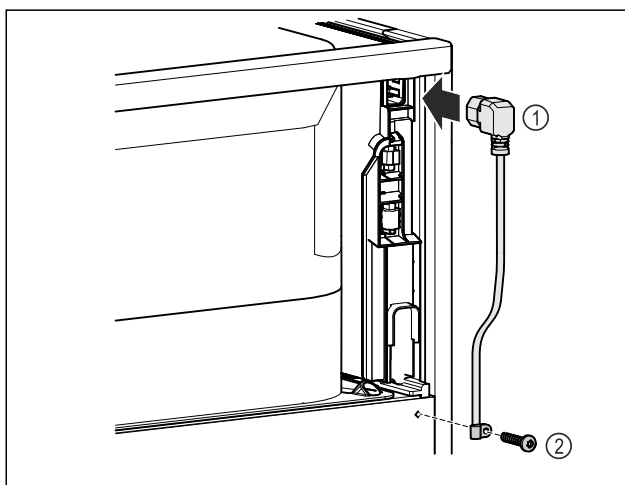

Fig. 9
- ▶ IEC socket of the power cable Fig. 9 (1) on the rear side of the appliance.
- ▶ Install mains tension relief. Fig. 9 (2)